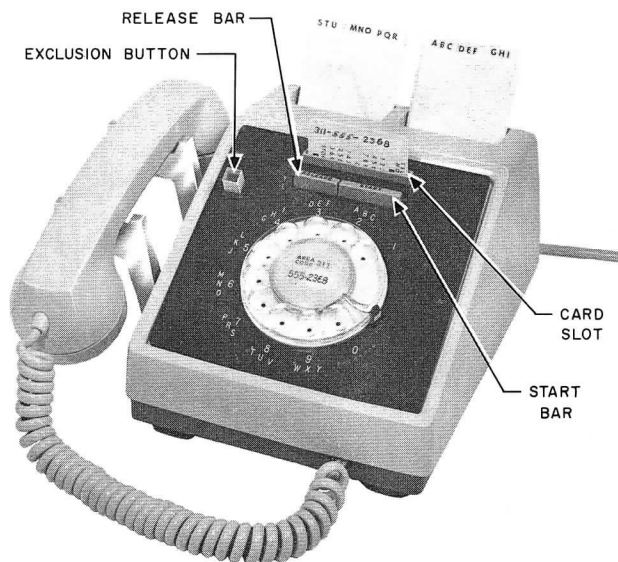

Fig. 1 - 660-Type Telephone Set
**2.01** The 660-, 663-, 1660-, and 1663-type telephone sets (Fig. 1 and 2) are similar in appearance to other card dialer sets.
**2.12** The exclusion feature, if provided, is actuated by pulling up on the plastic button (Fig. 1 and 2) at the top left of the faceplate. The exclusion switch is connected to the switchhook assembly by a wire link so that exclusion is cancelled when the handset is restored. Sets can be converted to provide exclusion by the installation of a kit of parts. (See Table A.)